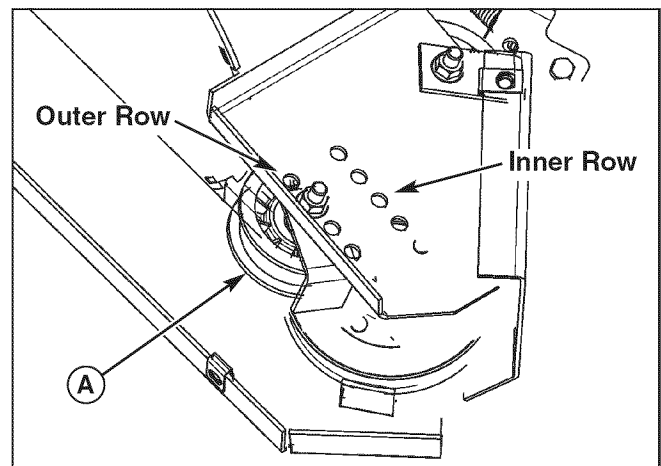

Figure 13. Check Idler Pulley Position
13. Check the position of the idler pulley (A, Figure 13). The position must be aligned with the position of the pulley (outer row of holes for pulley hub pointing in, inner row of holes for pulley hub pointing out). Reposition if necessary.